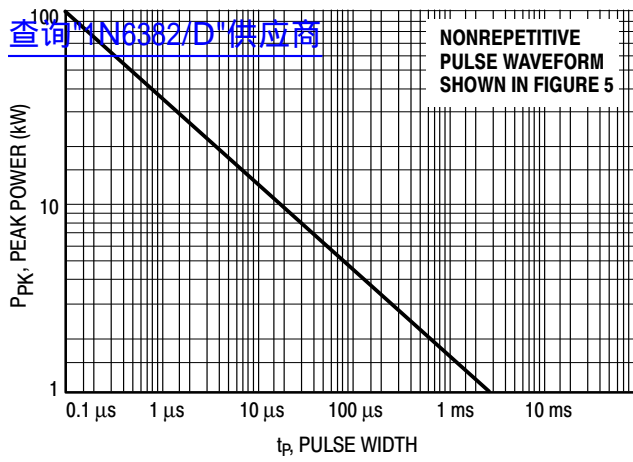
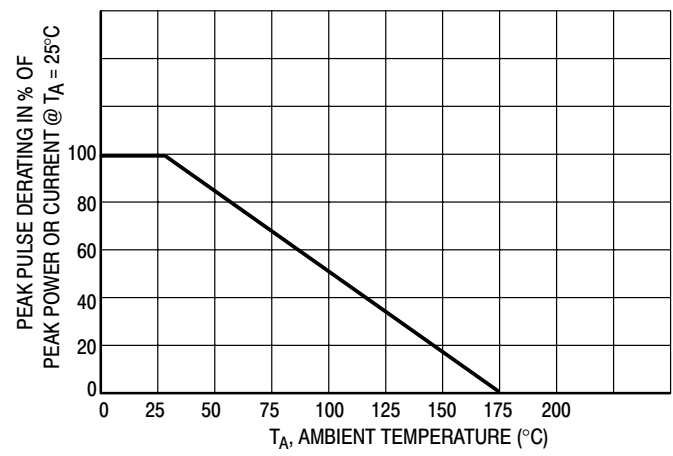
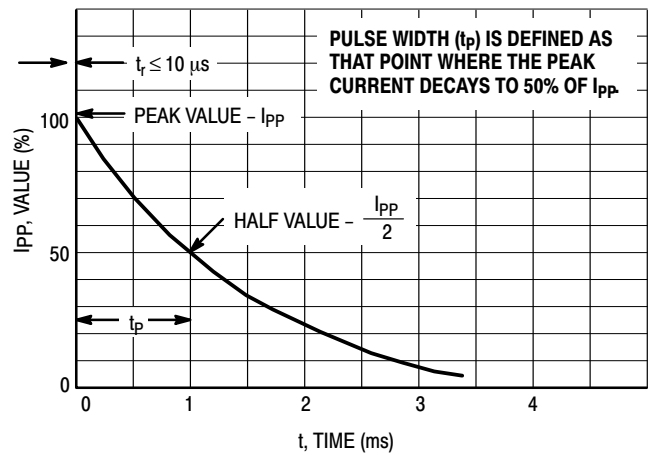
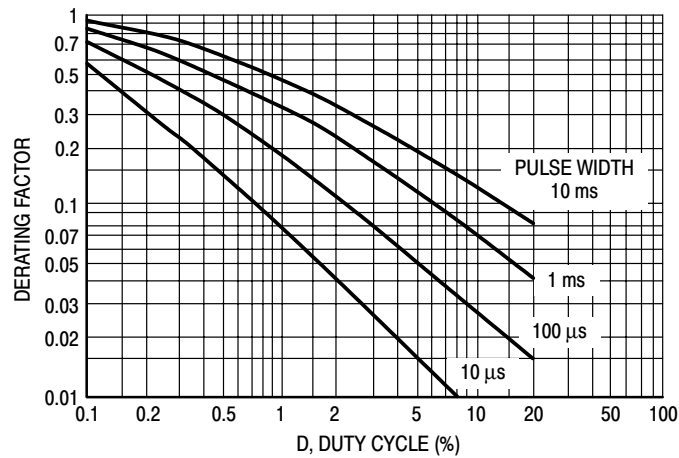

Figure 1. Pulse Rating Curve
Figure 2. Pulse Derating Curve
Figure 4. Pulse Waveform
Figure 6. Typical Derating Factor for Duty Cycle
1. Nonrepetitive current pulse per Figure 4 and derated above $T_A = 25^\circ\text{C}$ per Figure 2.
- Surge current waveform per Figure 4 and derate per Figures 1 and 2.
The data of Figure 1 applies for non-repetitive conditions and at a lead temperature of 25°C. If the duty cycle increases, the peak power must be reduced as indicated by the curves of Figure 6. Average power must be derated as the lead or ambient temperature rises above 25°C. The average power derating curve normally given on data sheets may be normalized and used for this purpose.
At first glance the derating curves of Figure 6 appear to be in error as the 10 ms pulse has a higher derating factor than the 10 μ s pulse. However, when the derating factor for a given pulse of Figure 6 is multiplied by the peak power value of Figure 1 for the same pulse, the results follow the expected trend.